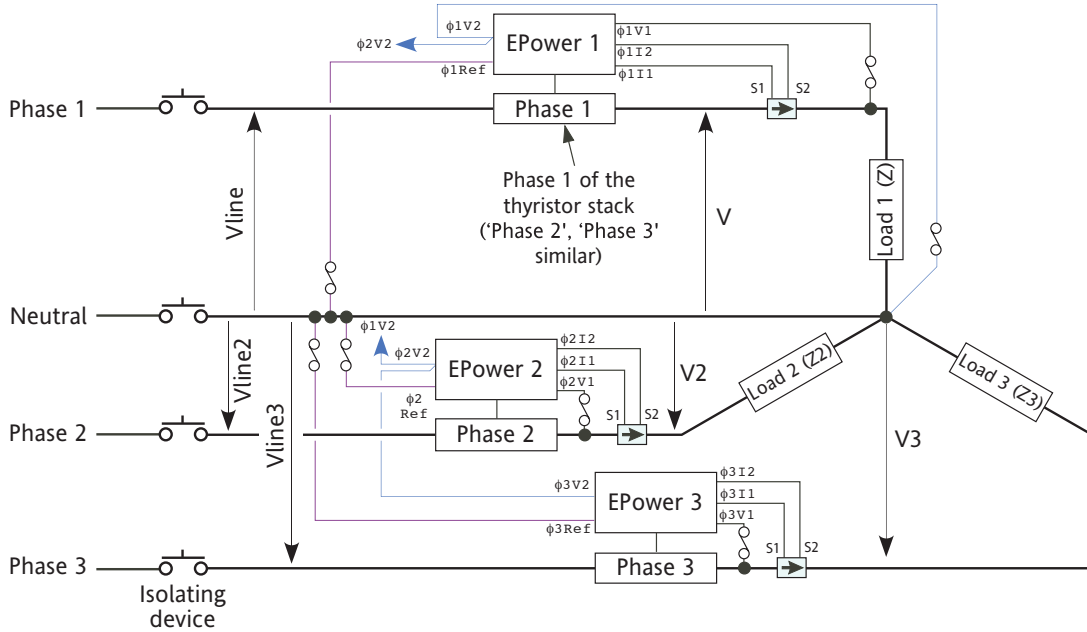

Figure 2.2.4a Star with neutral (4S)
1. Figures 2.2.4a to 2.2.4b below are intended only as theoretical examples. The installation must comply with local safety and emissions regulations in its entirety.